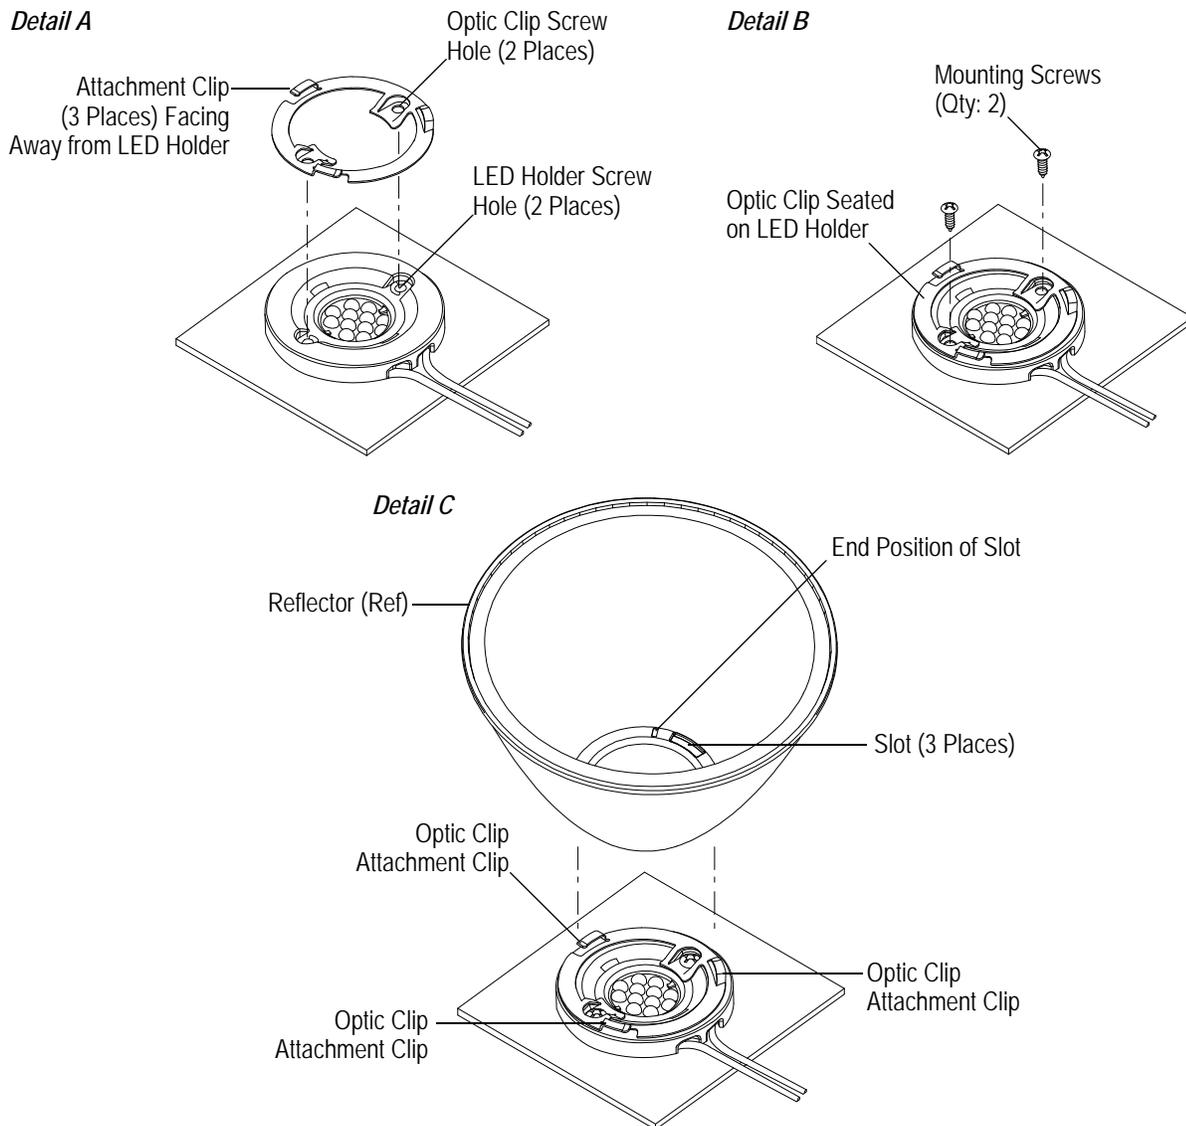

Figure 3
1. The optic clip must be placed over the LED holder with the attachment clips facing away from the LED holder and the screw holes aligned with the screw holes of the LED holder. See Figure 3, Detail A.
2. The optic clip and LED holder must be secured to the cooling device using the mounting screws. Each mounting screw should be tightened to a torque between 0.3 and 0.5 Nm [2.5 and 4 in.-lb]. See Figure 3, Detail B.
3. The slots of the reflector must be placed over the attachment clips of the optic clip, then the reflector must be secured to the optic clip by rotating the reflector clockwise until it stops (approximately 33 degrees). There will be an audible and/or tactile “click” when the attachment clips are in the end position of the slots. See Figure 3, Detail C.